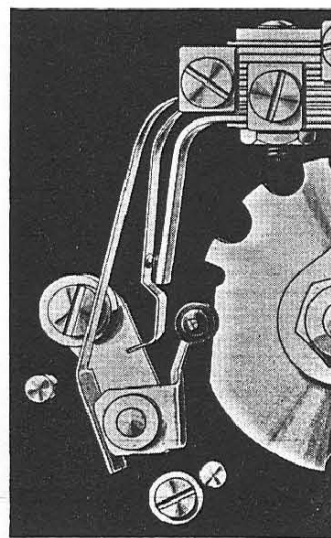

FIG. 10.—TRIGGER MECHANISM NORMAL
7. *Operation of the trigger mechanism.* The normal position of the mechanism is illustrated in Fig. 10, where the trigger is shown to be in the pulsing position and the insulating bush is clear of the pulse lever spring.